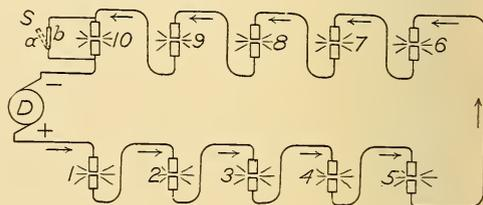
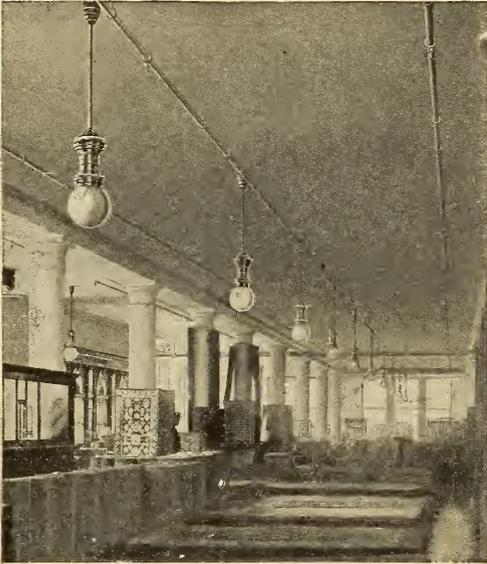

FIG. 7. DYNAMO AND 10 ARC LAMPS IN SERIES CIRCUIT.
FIG. 9. ARC LAMPS WITH EQUAL SPACING.
In a series circuit one or more electric sources have their poles so connected with a number of electro-receptive devices that the current passes successively through each of these devices from the first device to the last. The manner in which this is done will be readily understood from inspection of Fig. 7, which represents a single electric source or dynamo (D), connected in a series circuit with 10 arc lamps.
in Fig. 7, at S, as connected with the lamp No. 10. When this switch is turned so as to leave a space between the blades (a) and (b), the current passes between the two carbons and the lamp burns. When, however, the switch is turned so as to bring the contact (a) and (b) together, lamp No. 10 will be extinguished, because so much of the current passes through the low resistance path offered by the switch blades, that the amount of current passing between the carbons will be insufficient to produce an arc.
In Fig. 7, only a single switch is represented. Each lamp, however, must be provided with a switch.
It will be observed that in Fig. 7, the different lamps in the circuit are represented as being placed at equal distances apart. Where arc lamps are employed for the illumination of interiors, as represented in Fig. 9, the spacing between the successive lamps is constant. The same thing is true where arc lamps are employed for the illumination of streets or roadways, the lamps for this purpose being placed generally at the intersection of the cross streets. When, however, as is frequently the case, the current employed for the lighting of small stores, requiring three or four lamps only, is taken directly from the street service circuit, the distance between the lamps is greatly decreased. In other cases, where a few lamps only are required in a building, a few blocks away from the main service circuit, a loop of the circuit conductor carries the current to that par-